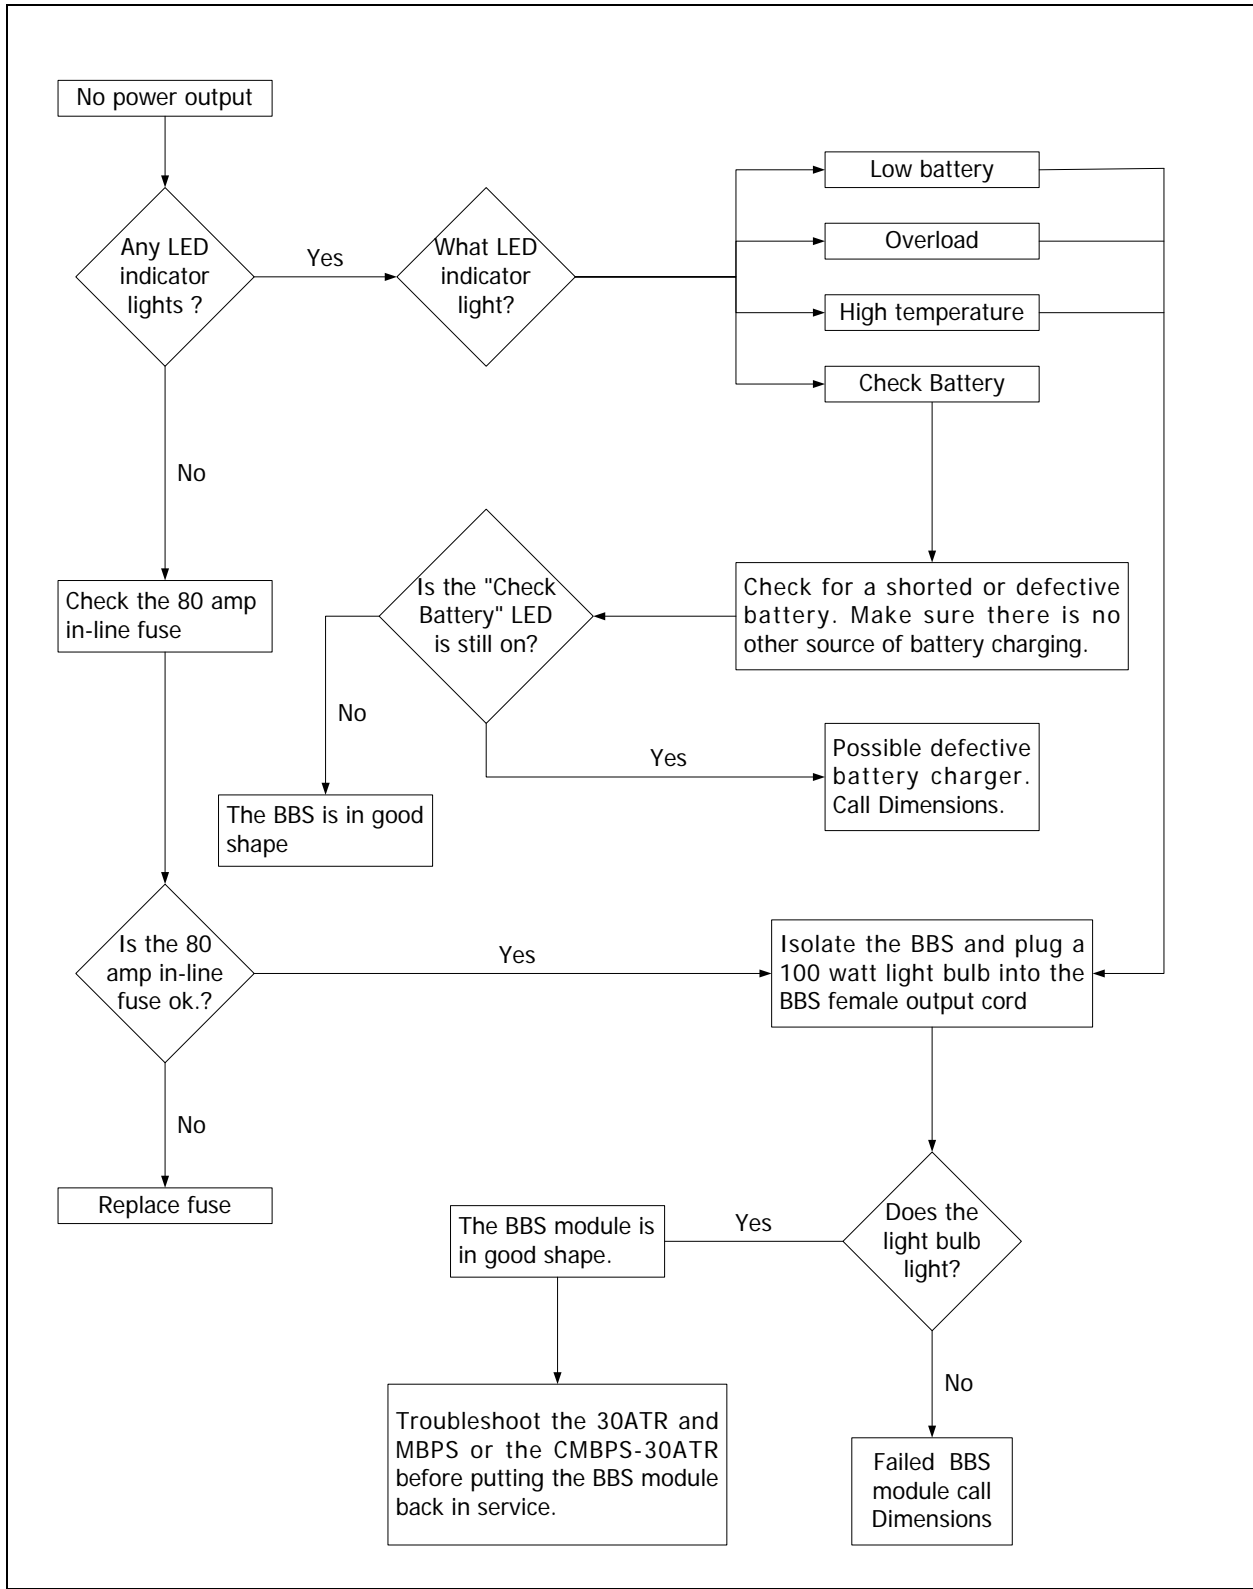

FIGURE 23: Troubleshooting Flow chart
- Check that all the circuit breakers are reset, including the one on the front of the BBS module, see section 3.2, items 1 and 2 on page 8.
- Observe the LEDs on the front control panel. Follow troubleshooting table 4 on page 36, and the Troubleshooting Flowchart Figure 23, page 37.